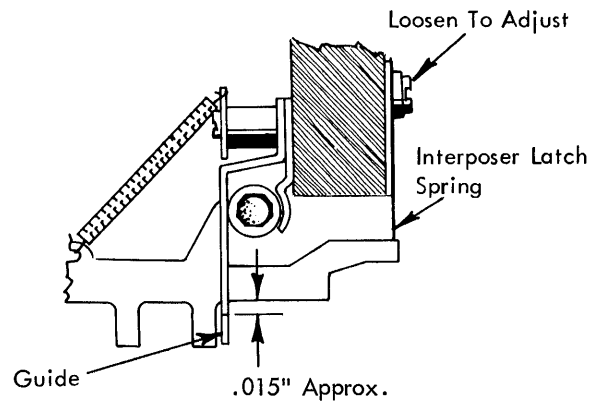

FIGURE 4. Interposer Latch Spring Adjustment
4. Interposer Latch Springs (Preliminary) With the H interposer latched down, adjust the left hand end of the right hand section of latch springs so that there will be approximately  $.015''$  remaining travel of the interposer before it bottoms (Fig. 4). Check this clearance by pulling the interposer down with a spring hook.